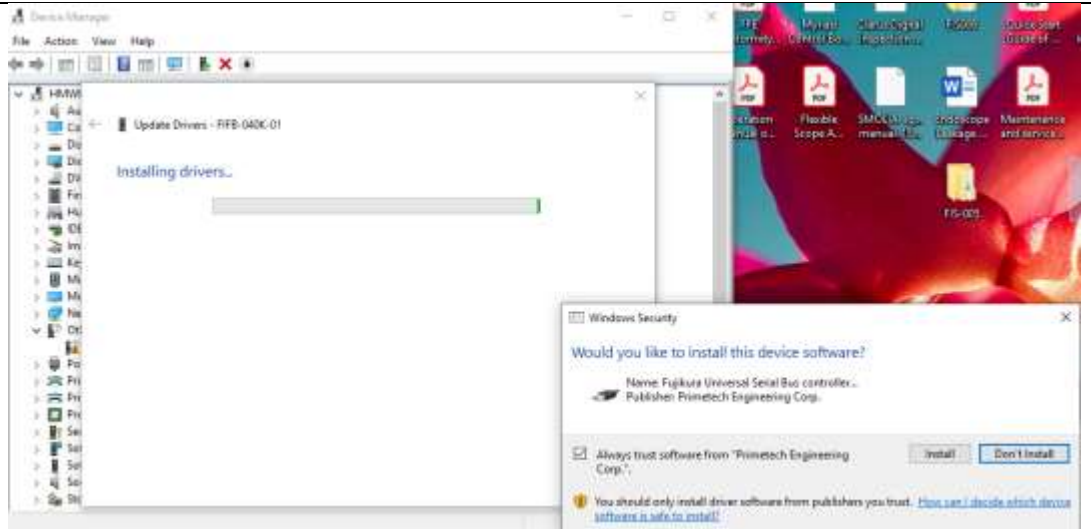

Figure 8
15. Click on Install to start installing Device driver software. **Fig. 8**